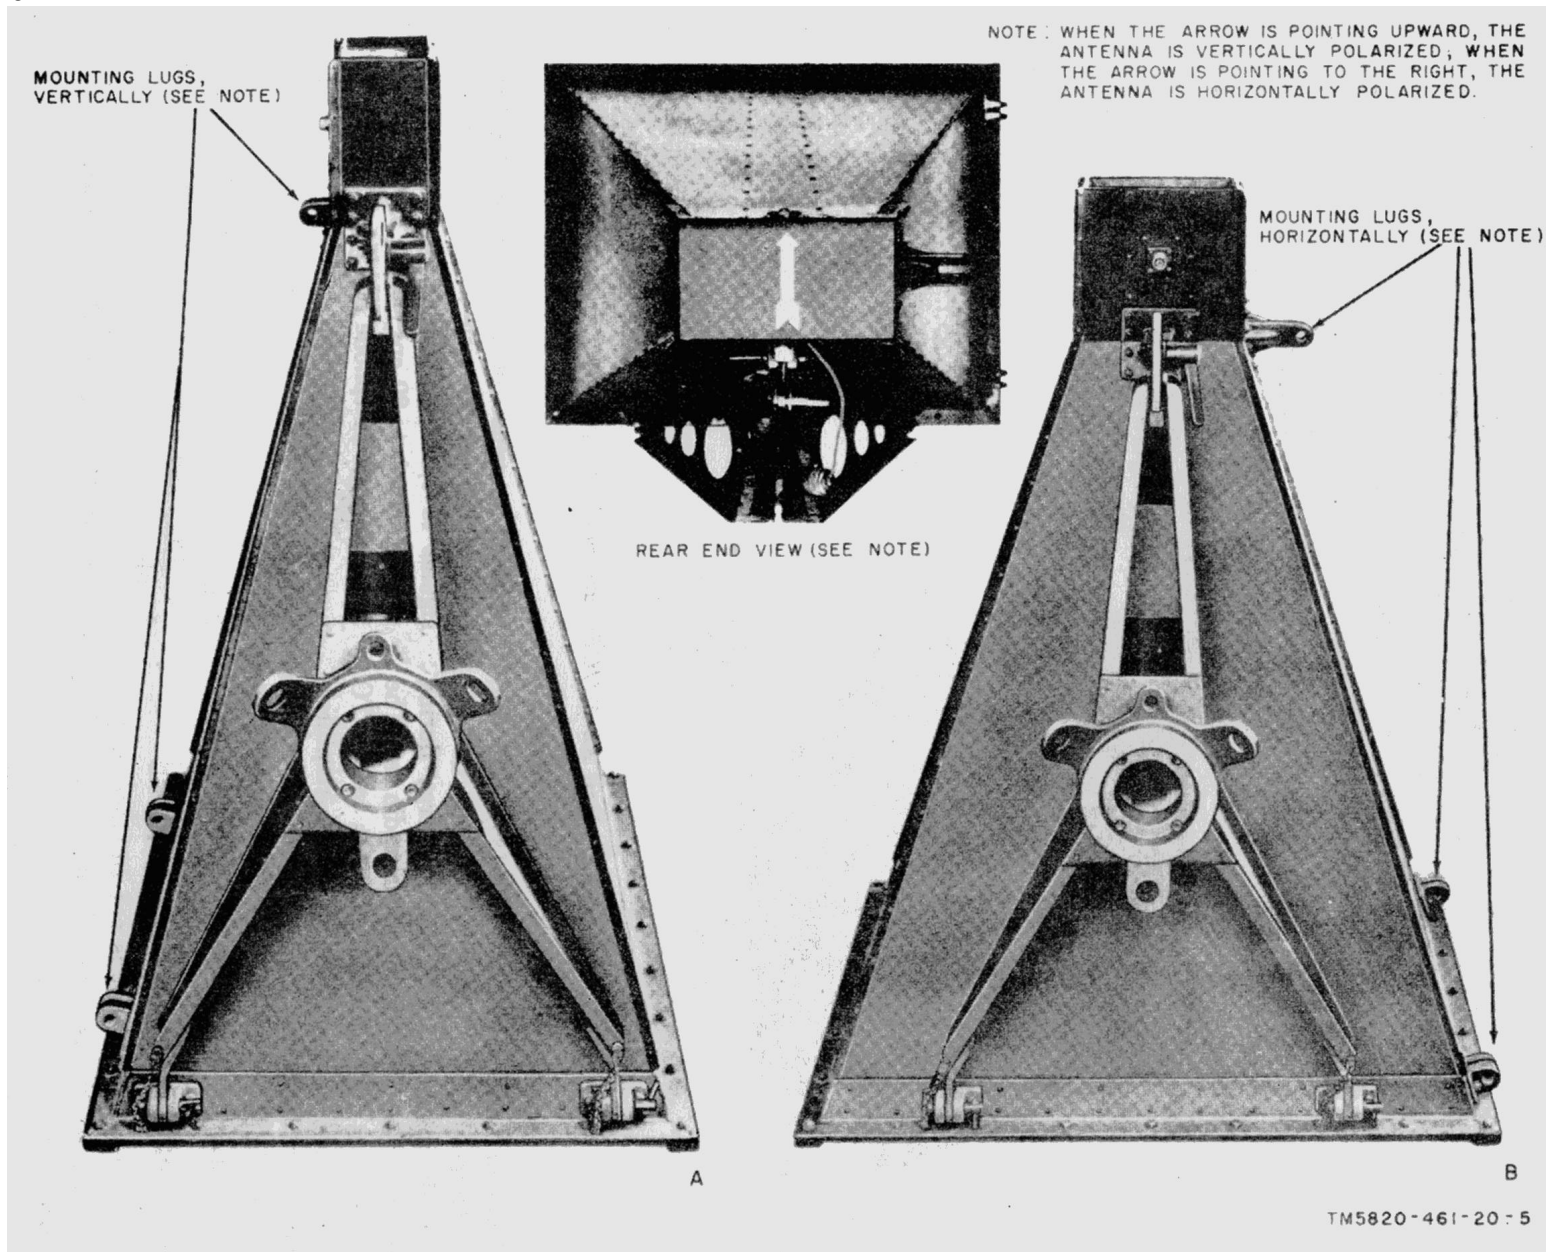

Figure 1-7. Antenna AT-903/G
a. Antenna AT-903/G (fig. 1-7) is a directional antenna that consists of a modified dipole probe mounted in a ridge-loaded horn that can be positioned for either vertical or horizontal polarization. It has a broad frequency response and is capable of operation throughout the entire frequency range without adjustment. Antenna AT-903/G is installed on top of Mast Extension Kit MK-8061GRC and Mast AB-577/GRC. Connections to the receiver and transmitter are made through a coaxial cable to the front panel connector on the transmitter. Some AT-903/G's are provided with an arrow painted on the narrow end to indicate the antenna polarity with respect to ground.